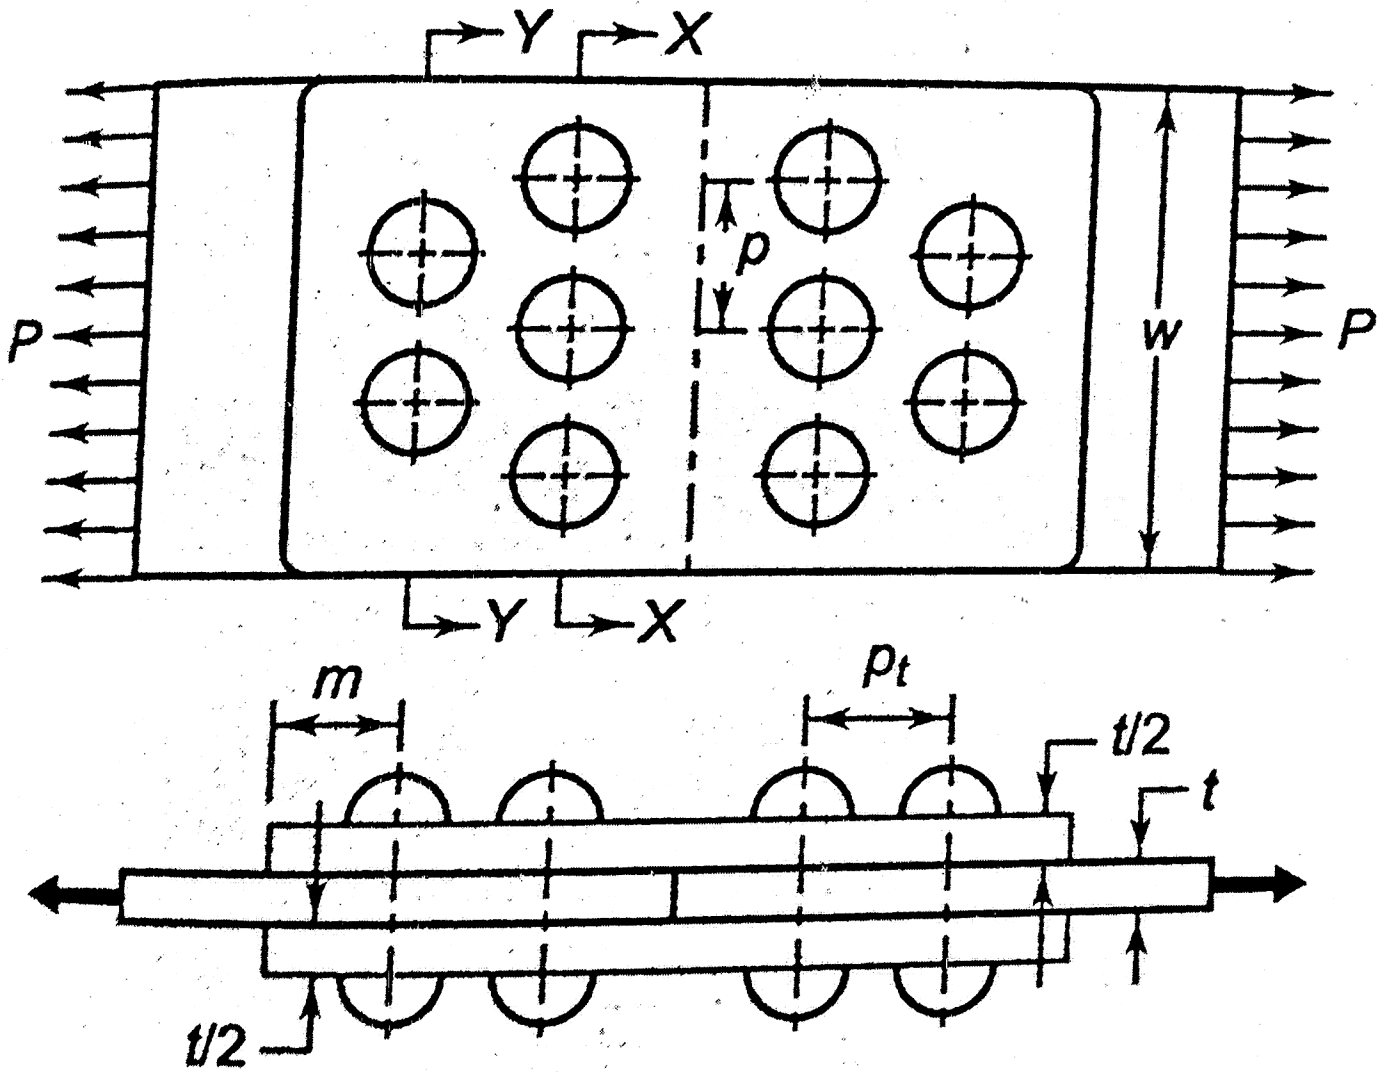

Fig. 7
8. Two flat plates subjected to a tensile force P are connected together by means of double strap butt joint as shown in Fig. 7. The force P is 250 kN and the width of the plate 'w' is 200 mm. The rivets and plates are made of same material (steel) and the permissible stresses in tension, shear and compression are 70, 60, and 100 N/mm² respectively.